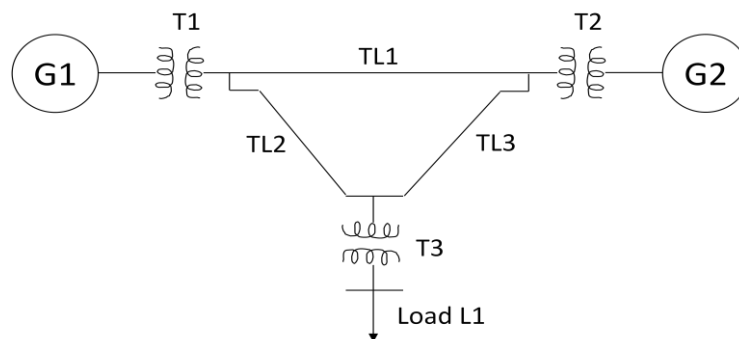

Fig. Q3
- b. The single-line diagram of the three-phase system is shown in Fig. Q3. The system comprises two generators, three transmission lines, three transformers, and two loads. The details of all equipment are listed below.